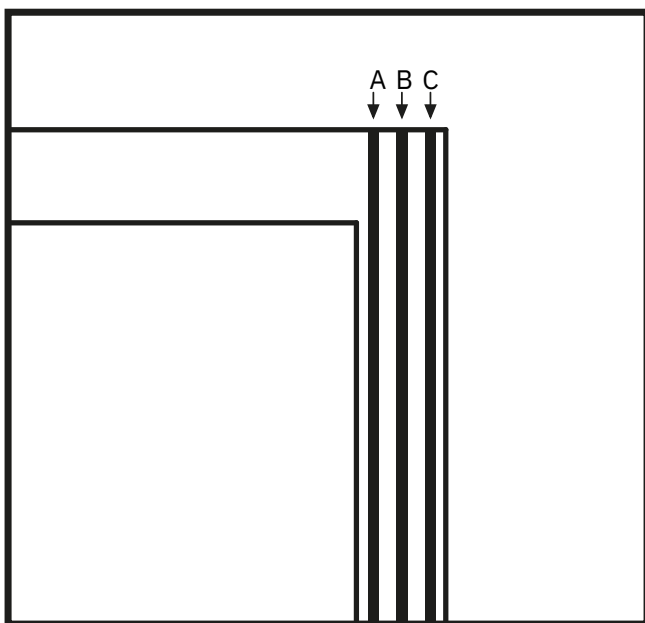

Figure 1: Top view
1. Choose a suitable location for the bathtub glass on the edge of the bathtub. (Fig 1)